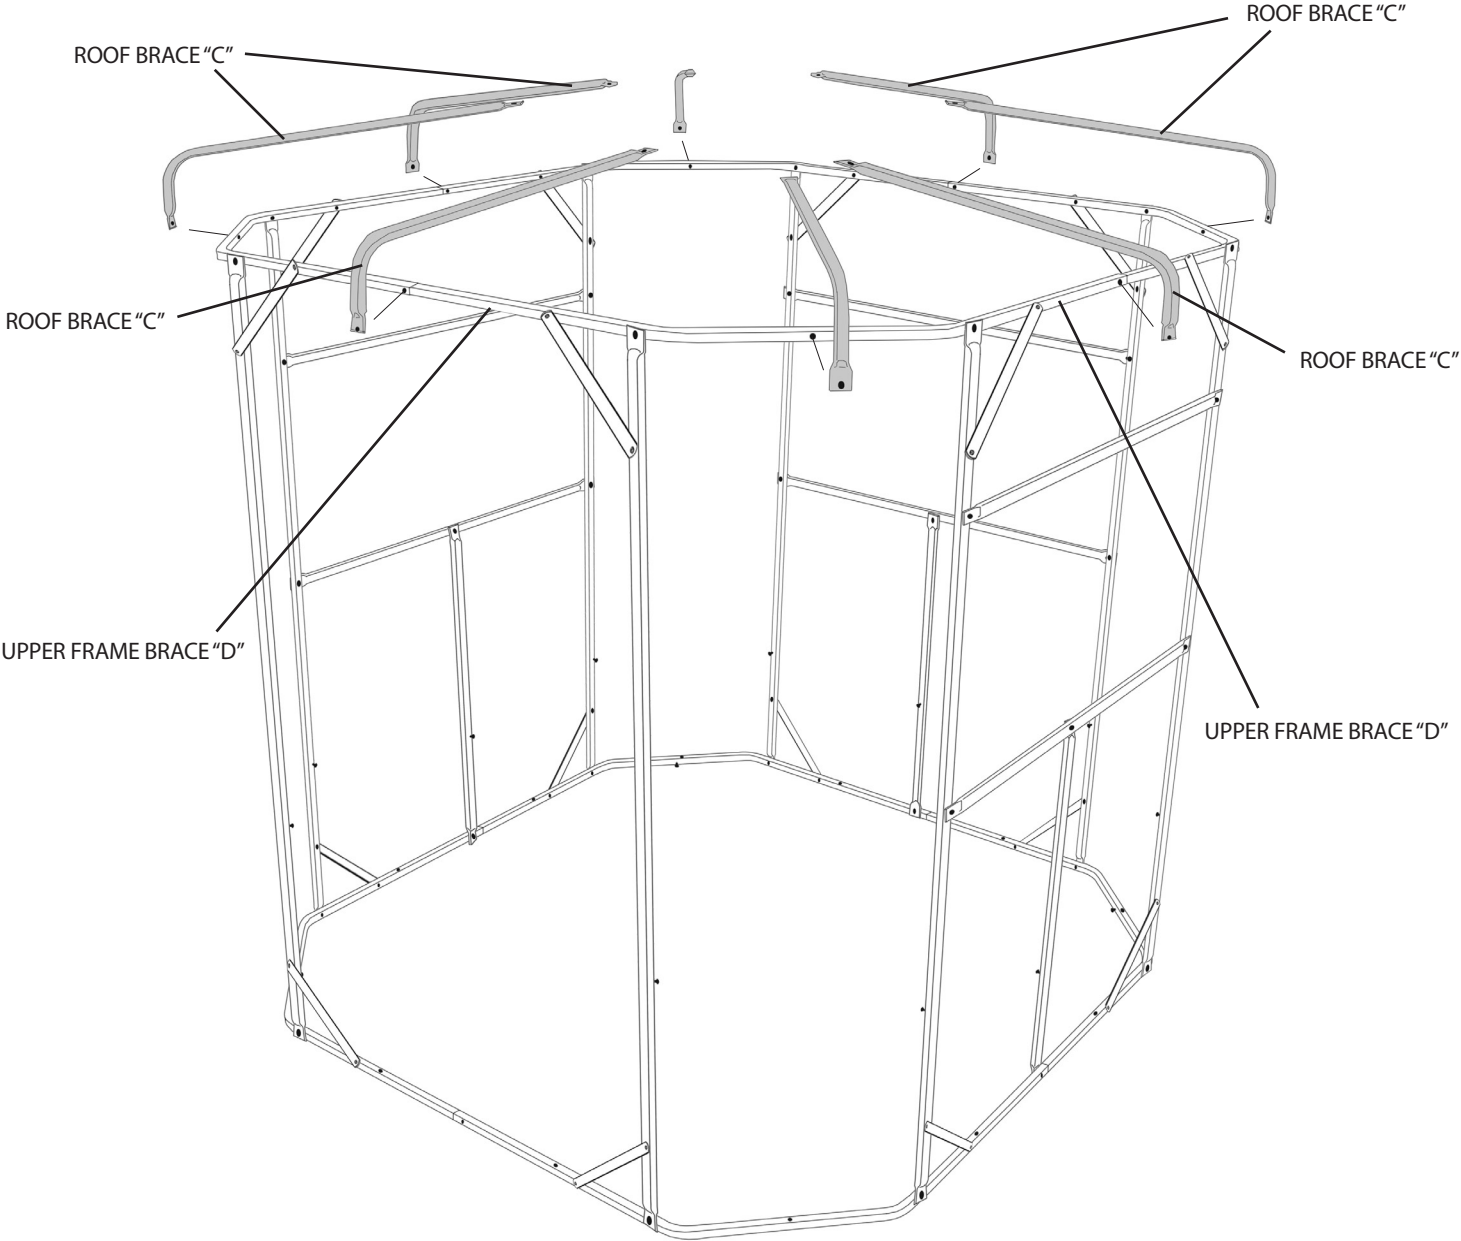

Figure 19.1
STEP 11: Locate the (8) ROOF BRACES "C". Using (8) 1-1/4" BOLTS & (8) NUTS attach the (8) ROOF BRACES "C" to the UPPER FRAME BRACES "D", as illustrated in Figure 19.1.
NOTE: The (8) ROOF BRACES "C" will be fastened to the outside of the UPPER FRAME BRACES, on what would be the exterior of the blind, as illustrated in Figure 19.1.